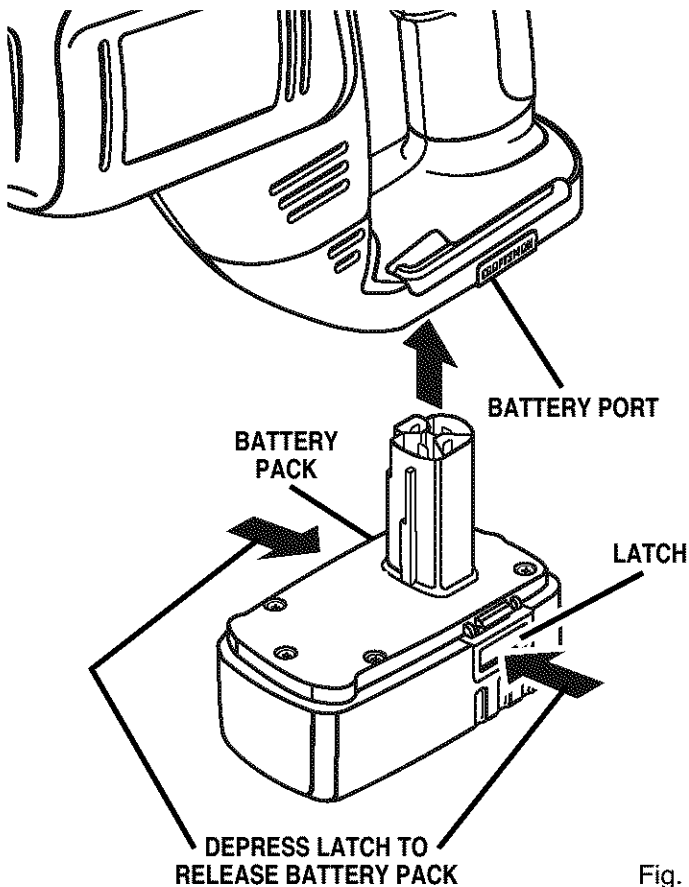

Fig. 2
See Figure 2.
- Place the battery pack in your saw aligning raised rib on battery pack with groove in saw's battery port. See Figure 2.
- Remove battery pack. See Figure 2.
- Place battery pack in charger aligning raised rib on battery pack with groove in charger. See Figure 2.